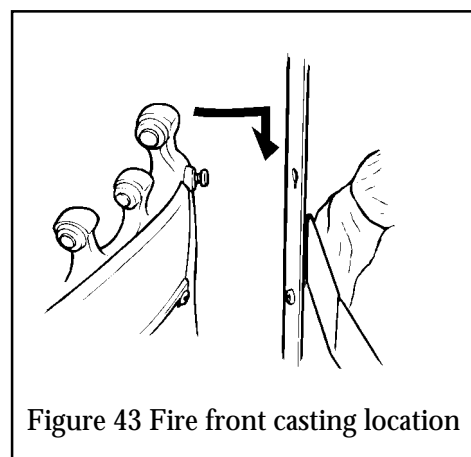

Figure 43 Fire front casting location
14.1 All models except black & chrome front casting Fit the fire front casting to the front surround. Locate the two screw heads at the rear top corners of the casting through the keyhole slots at the inner sides of the surround. If the screw heads do not project enough or project too far, the screws can be adjusted. Lower the casting so that it rests on the hearth (see figure 43).